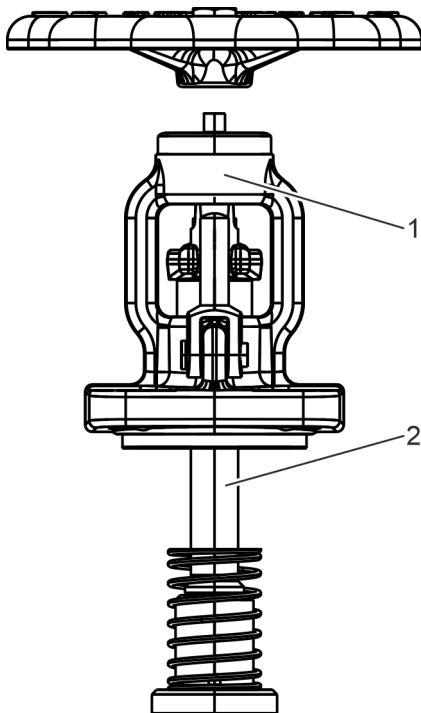

Fig. 27: Unscrewing the stem
6. ▶ Unscrew the stem (Fig. 27/2) from the threaded bush.
7. ▶ Remove the stem from the bonnet (Fig. 27/1).